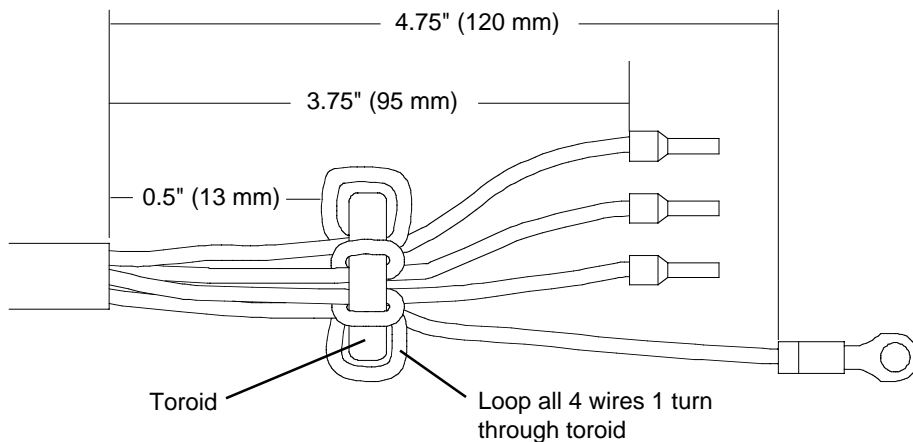

Figure 2-9 Power Cord Preparation
1. Prepare the power cord wires as shown in Figure 2-9. Note that all 4 wires must loop through the toroid.